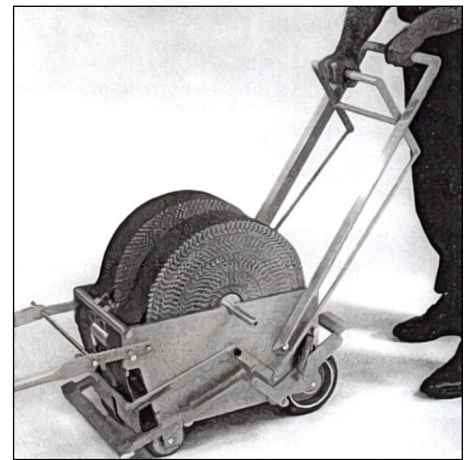

Figure 3
3. Position both hands in the center of the applicator handles when moving the clamp handle forward to aid in keeping the applicator moving in a straight line. (See Figure 3). Slowly move the clamp handle forward while moving the applicator forward at about the same speed. After tape application has begun, immediately release the clamp handle to allow the tape to move freely. For skip line application, as the tape applicator is moved forward, start the pavement marking each time the **pointer** passes over "A," and cut the pavement marking each time the **pointer** passes over "B."